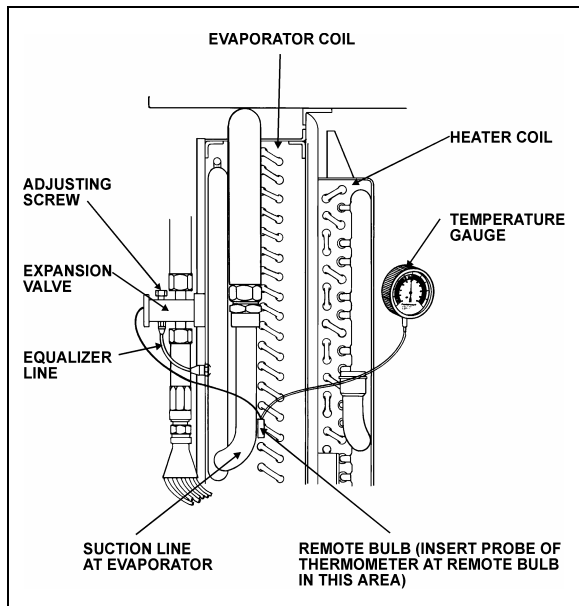

FIGURE 39: SUPERHEAT ADJUST. INSTALLATION 22046
The easiest method of adjusting the superheat is to unscrew completely the main evaporator expansion valve adjusting screw, and screw in 13 turns clockwise for 134A (Figure 39). If this method does not provide an accurate superheat, the following procedure should be followed:
3. Install a remote reading thermometer to the evaporator outlet line near the existing remote bulb (Figure 39).